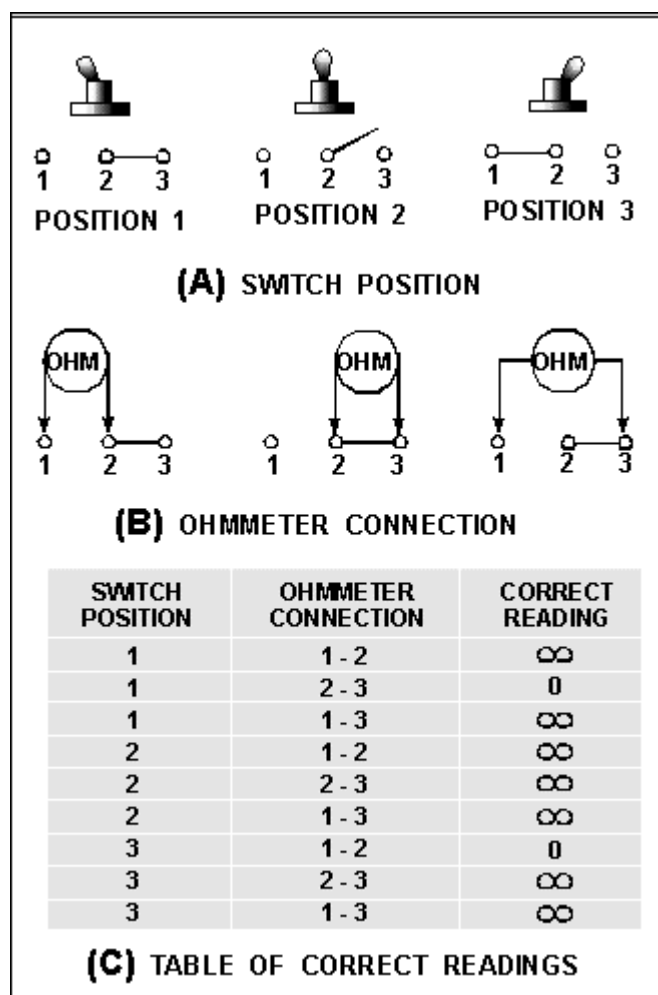

Figure 3-15.—Table of correct readings.
Figure 3-15 is used to explain the method of using an ohmmeter to check a switch. Figure 3-15(A) shows the toggle positions and schematic diagrams for the three switch positions. Figure 3-15(B) shows the ohmmeter connections used to check the switch while the toggle is in position 1. Figure 3-15(C) is a table showing the switch position, ohmmeter connection, and correct ohmmeter reading for those conditions.